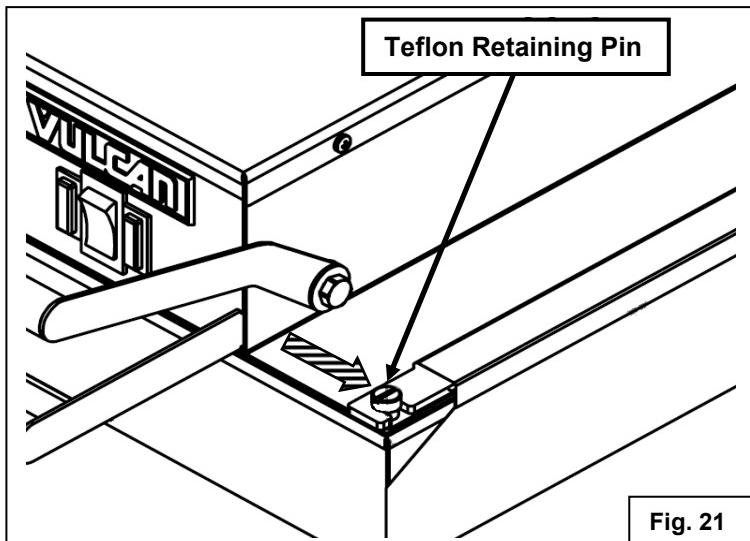

Fig. 21
4. Raise the platen to the 47° locked position. Drape the Teflon sheet (#944505) from the right side of the platen by hooking the front and back of the Teflon bracket to the Teflon retaining pins. See fig. 21.